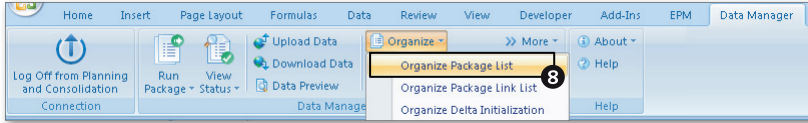

Figure 6.8 Creating Logic Script to Revalue Plan Data—Part E
7. Now, associate this process chain with a data package in SAP BPC by going to the EPM interface for Excel and connecting to the ZRB_SALES_CMB model in the ZRB_PR_PLAN environment. In the EPM DATA MANAGER tab, select the ORGANIZE PACKAGE LIST menu option to create a new data package, and associate the process chain you created in the previous step with this package (Figure 6.8, 8).